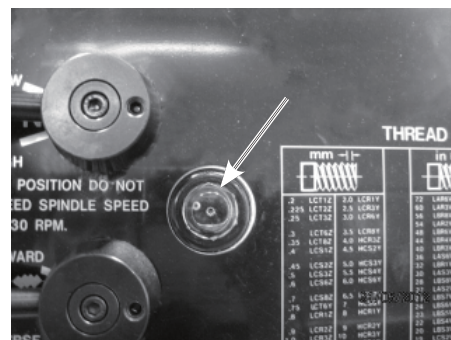

Figure 23. Oil pump sight glass.
- Rotate the red EMERGENCY stop switch knob clockwise until it pops out and the pump will turn on. Observe the oil pump tube sight glass (Figure 23). When oil flows out of the tube and against the sight glass, you can start the lathe.